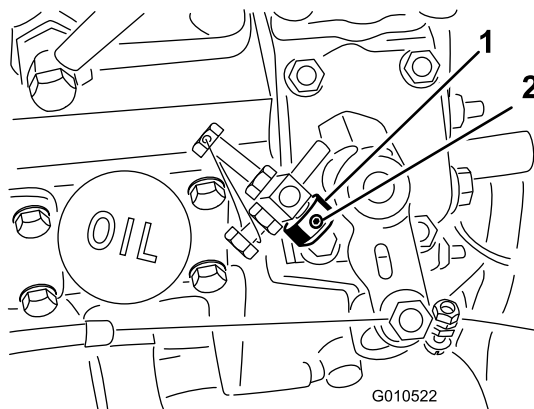

Figure 7
2. Slide the throttle stop onto the high-idle stop screw (Figure 7). Ensure that the chamfered end of the throttle stop is outward.
1. Loosen the setscrew on the throttle stop (Figure 7).